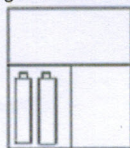
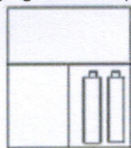

Fig. 1
Fig. 2
1. Insert 2 or 4 pieces of AA/AAA/C/D or 1-2 pieces of 9V rechargeable Ni-MH batteries into the battery compartment (**batteries must be charged in pairs**). The 9V-block can be charged individually. For charging only 2 pieces of AA/AAA/C/D batteries, insert the batteries to the left or right side of the charging terminal (Fig. 1) & (Fig.2)